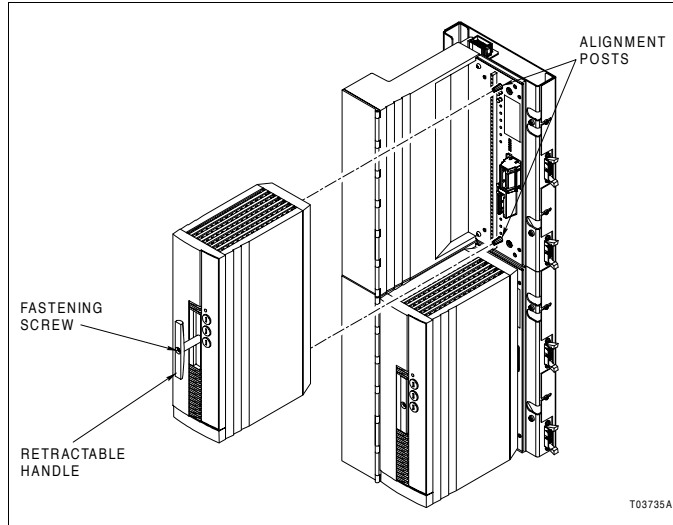

Figure PR4-1. SIM-100 Module Attachment
- 2. Grasp the retractable handle when inserting the module. Insure the handle is extended completely so that the fastening screw does not stick out from the back of the module (Fig. PR4-1).